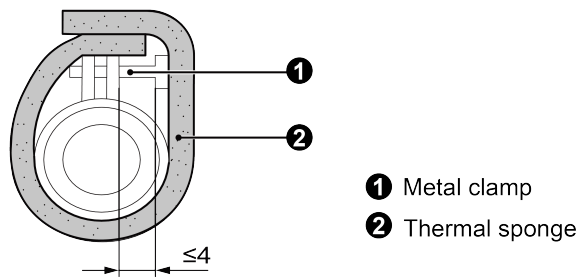

Fig 4.3.3
- (3) Use sealing plate to make the pipe clamp and hose insulated, as shown in Fig.4.3.3.